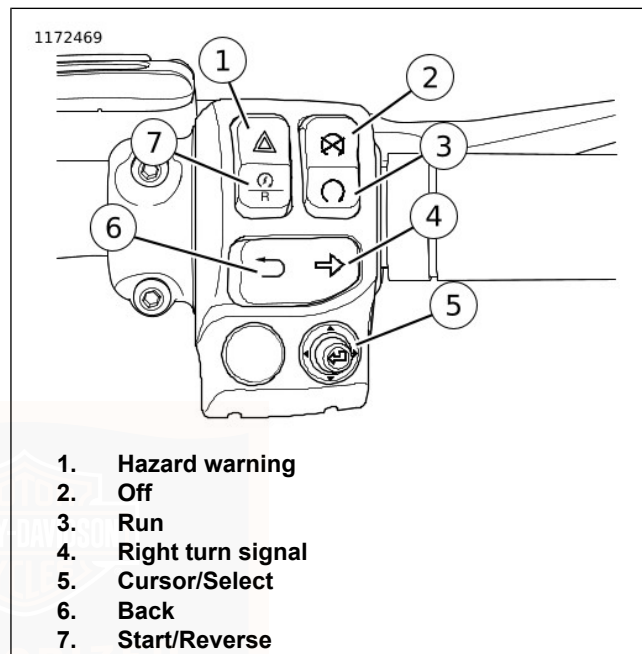

Figure 23. Right Hand Switch Module
See Figure 23. The hazard switch (1) is used to leave a stranded motorcycle in the 4-way flashing mode. With the flashers, the motorcycle can be left with the ignition off until assistance is found. Refer to Table 23.
See Figure 23. Press the engine OFF/RUN switch to off (2) to shut off the engine. Refer to Table 23.
See Figure 23. Push the engine OFF/RUN switch to run (3) to enable engine start and run. The engine OFF/RUN switch must be in the run position to start or operate the engine. Refer to Table 23.
See Figure 23. Press the right turn signal switch (4) to activate the right turn signal. Refer to Table 23.
See Figure 23. The CURSOR/SELECT five-way switch (5) operates radio features on equipped vehicles. See the BOOM! BOX OWNER'S MANUAL. Refer to Table 23.
See Figure 23. The back switch (6) operates radio features on equipped vehicles. See the BOOM! BOX OWNER'S MANUAL. Refer to Table 23.
2. Figure 23. Switch the OFF/RUN switch to the run position (3). Shift the transmission to neutral. The neutral (green) indicator illuminates. See OPERATION > STARTING THE ENGINE (Page 101).
3. Press the start switch (7) to operate the starter motor. Refer to Table 23.